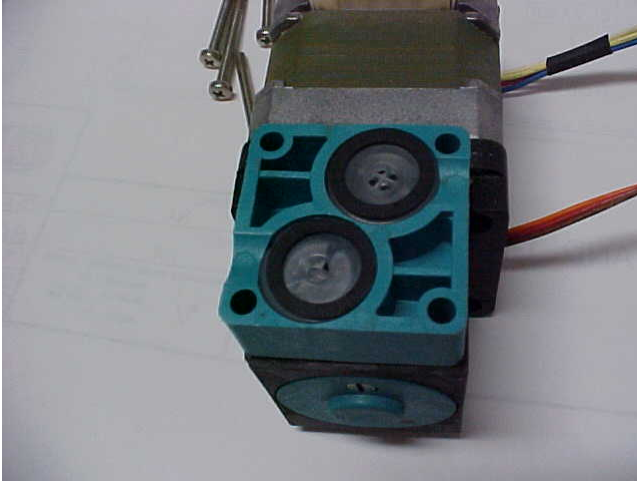

FIGURE 7- BOTH NEW CARTRIDGES PROPERLY INSTALLED AND SEALING RINGS POSITIONED ON TOP
9. Fit the new valve cartridge in place in the well. **IMPORTANT!** The position and orientation of the valve cartridge is indicated by the ridges on the intermediate plate and the grooves in the cartridge. The position and orientation of each cartridge in the pump is different. This is why only one new cartridge should be done at a time. The cartridge must be properly seated by rotating the cartridge in the well until it snaps into position. Proper orientation will have the cartridge slightly recessed in the well and locked into position with room for a sealing ring on top of the cartridge to still be below the top surface of the well. Note. The “cross-hatch” of one cartridge is “up” (see figure 7) on the inlet side of the pump. Triangles on the cover plate indicate flow direction.